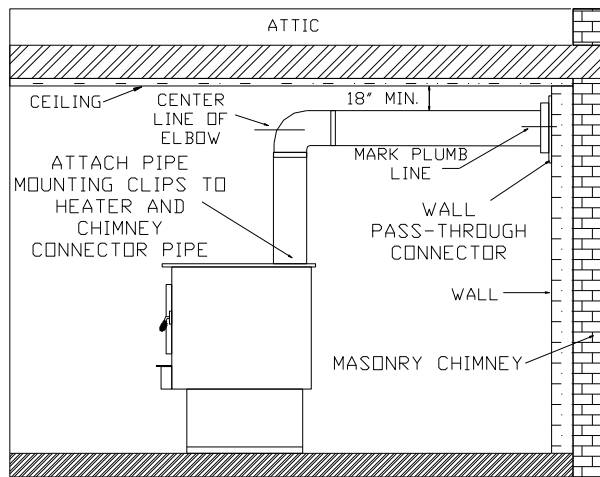

Figure 7
1. Before connecting these units to a masonry chimney, determine that masonry fireplace wall pass through connector thimble meets **NFPA-211** Code and local building codes and is a minimum of 18" from ceiling. If connector thimble does not meet these codes, t pass-through connector must be modified. (See Figure 7.)